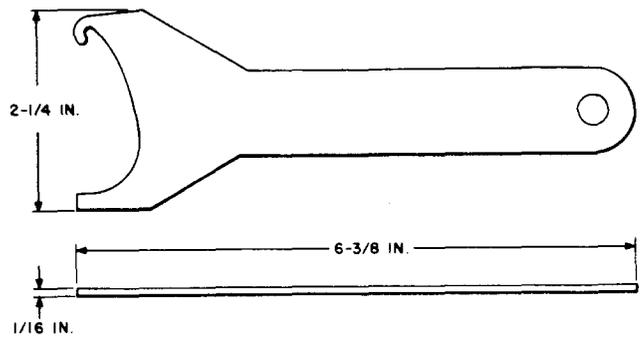

Fig. 12—723B Printed Wiring Board Extractor Tool
**2.12 723B:** The 723B printed wiring board extractor tool (Fig. 12) is used to extract the printed wiring boards from 36A and 38A apparatus mountings in No. 1 and No. 2 ESS switching equipment.